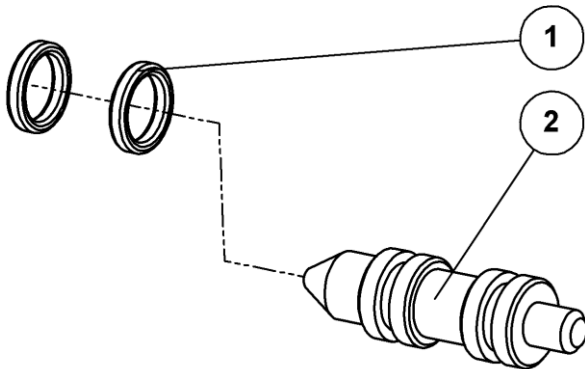

Fig. 6-9 Pressure plunger
- The two Kalrez O-rings (Fig. 6-9 item 1) are removed and the plunger (2) cleaned with denatured alcohol.
- Using Krytox GPL-206 high temp grease from Dupont, new Kalrez O-rings (Fig. 6-9 item 1) are carefully installed.